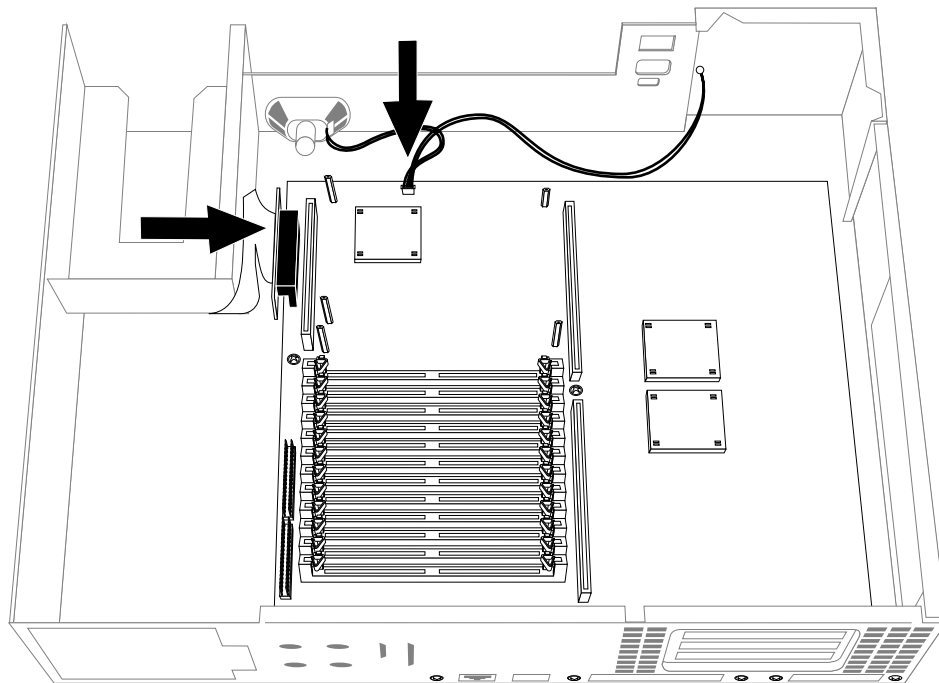

Figure 2-13 Reconnecting Cables to the IP26 System Base Board
2. Connect the SCSI cable and the speaker and power-switch wires to the IP26 base board, as shown in Figure 2-13.